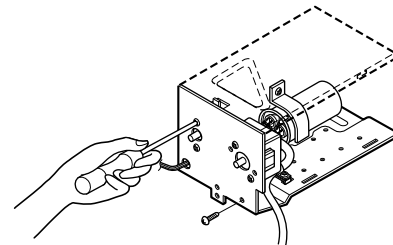

Figure 28
6. Re-install the components by referring to the above removal procedure. (See Figure 28)